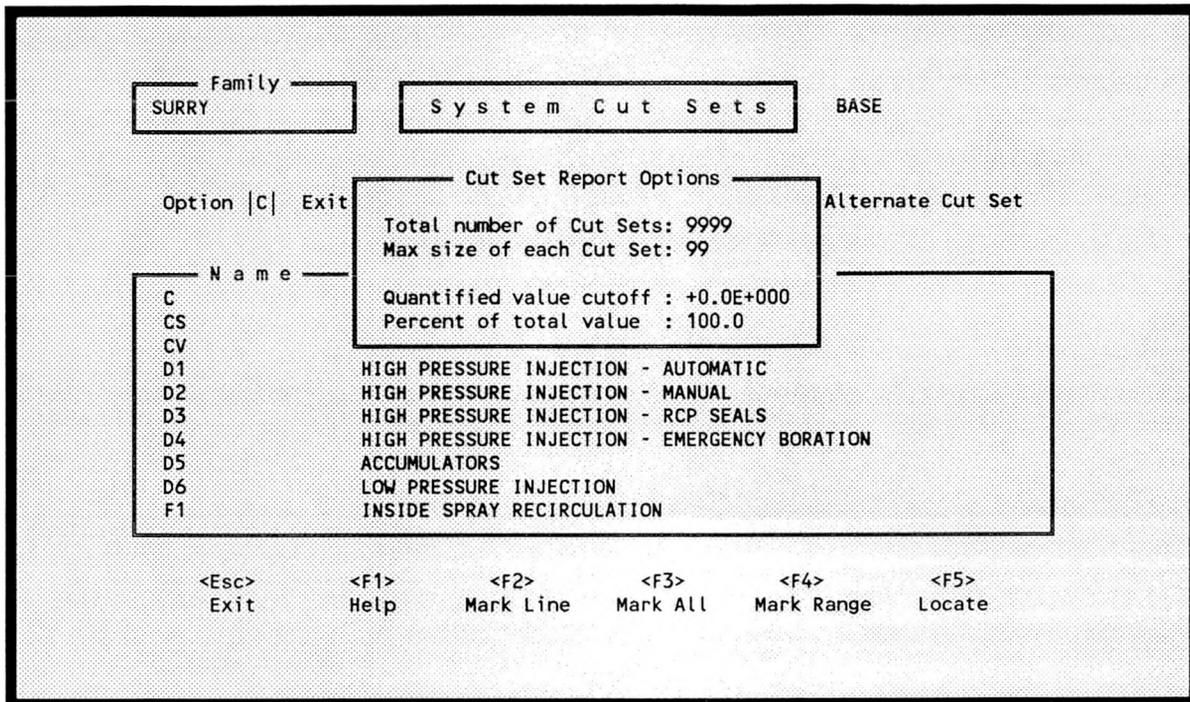

Figure 305. Cut set default report settings.
9.5.3.1 Cut Set. This option allows you to generate the System Cut Sets Report which consists of the cut set number, size, and all corresponding cut sets (alternate or base). When you invoke this option, Figure 305 will be displayed. You can modify any of the default values provided by simply typing over the existing data. Upon pressing <Enter>, the output destination screen will be displayed. On this screen, you must select one of the following output destinations:
9.5.3.2 Quantified Cut Set. This option allows you to generate the System Cut Set (Quantification) Report for quantified cut sets only. The report consists of the cut set number, percent of total, percent of the cut set, probability/frequency and all associated cut sets (alternate or base) for the selected system(s). When you invoke this option, Figure 305 will be displayed. You can modify any of the default values provided by simply typing over the existing data. Upon pressing <Enter>, the output destination screen will be displayed. On this screen, you must select one of the following output destinations: